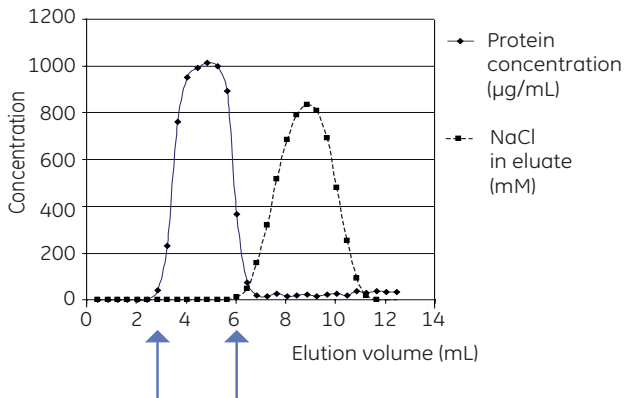

Fig 2. Removal of NaCl from albumin solution with PD-10 Desalting column. The albumin is eluted in volume fractions between 2.5 to 6.0 mL (indicated by arrows).
- Elute with 3.5 mL buffer and collect the eluate. A typical elution profile is shown in Fig 2
The following experiment is included as an example of a desalting experiment using the gravity protocol. A PD-10 Desalting column was equilibrated with MilliQ™ water. 2.5 mL of bovine serum albumin 1 mg/mL in 1M NaCl was applied onto the column. The protein recovery was 95% and the desalting capacity was above 99%, see Fig 2."